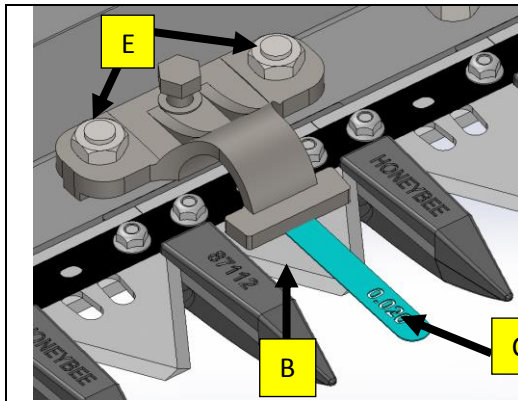
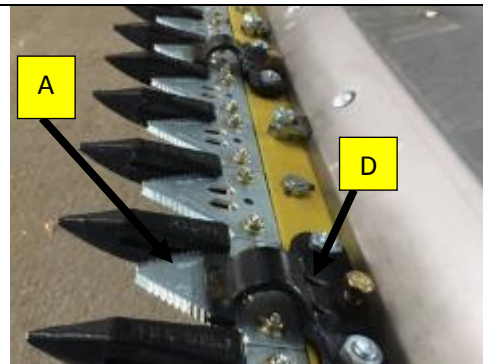

Figure 17
Figure 18
- Stroke the knife so that the sickle sections are directly underneath the hold-downs (A). Figure 17 and Figure 18.
- Push the knife sickle section (B) down against the guard and insert a 0.020" feeler gauge (C) between the sickle section (B) and the hold down (A). If the gap is larger than 0.020" or cannot insert the feeler gauge, then the hold down needs to be adjusted. When the hold down is properly adjusted the feeler gauge should be able to be inserted with light resistance while pushing down the sickle section against the guard.
- Adjust hold-down (A) by turning the hold down adjustment bolt (D) clockwise to lower the front of the hold-down and decrease clearance, or counter clockwise to raise the front of the hold down and increase clearance.
- **NOTE:** For larger adjustments, it may be necessary to loosen the hold down mounting nuts (E), turn adjuster bolt (D), and then retighten nuts (**49 ft. Lbs**)